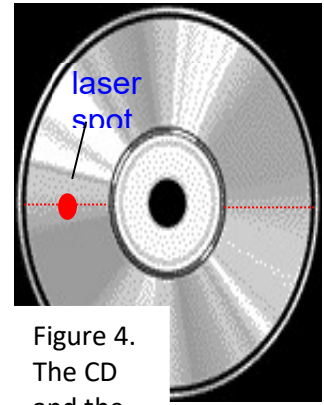
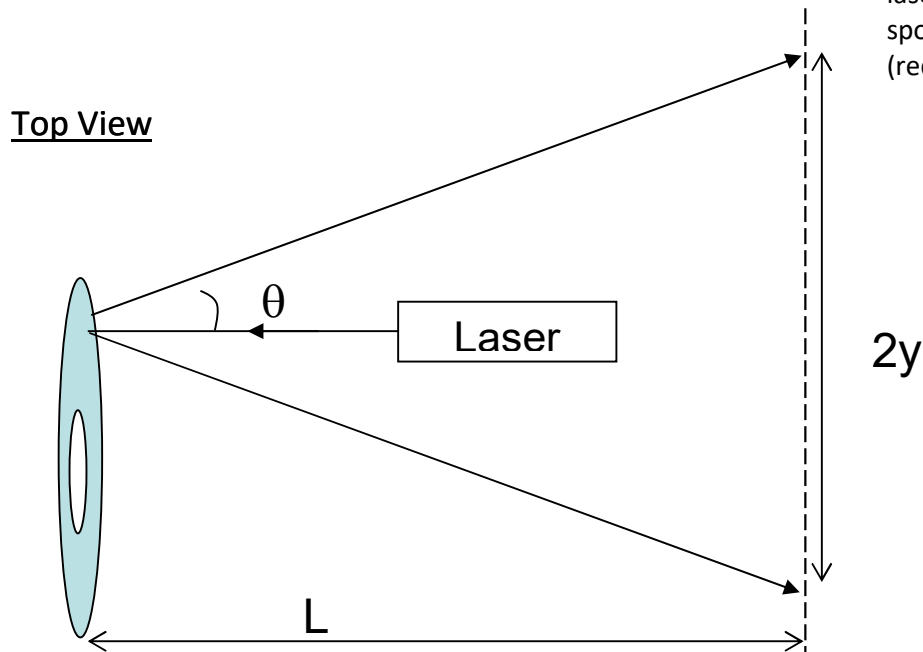

Figure 4.
Figure 5. The direction
- Remove the slit-slide holder from its post holder and insert the CD holder with the CD side facing the laser. Loosen the locking screw of the post holder to the rail and slide the post holder so that the CD is about 30 cm from the laser. Turn on the laser and adjust the CD mount so that the laser is incident on a spot where the grooves are vertical (see Figure 4). To make sure the disk is perpendicular to the beam, the zeroth-order diffraction peak (and also the reflection off the CD plastic coating) should bounce directly back toward the laser (they may be high or low, but should not deviate left or right). The light bouncing off the CD should be directed toward the *wall* of the classroom. See Figure 5.
- Now measure the distance between the *right* 1st-order and the *left* 1st-order peaks (i.e., between the +1 and -1 peaks as shown in Figure 4):